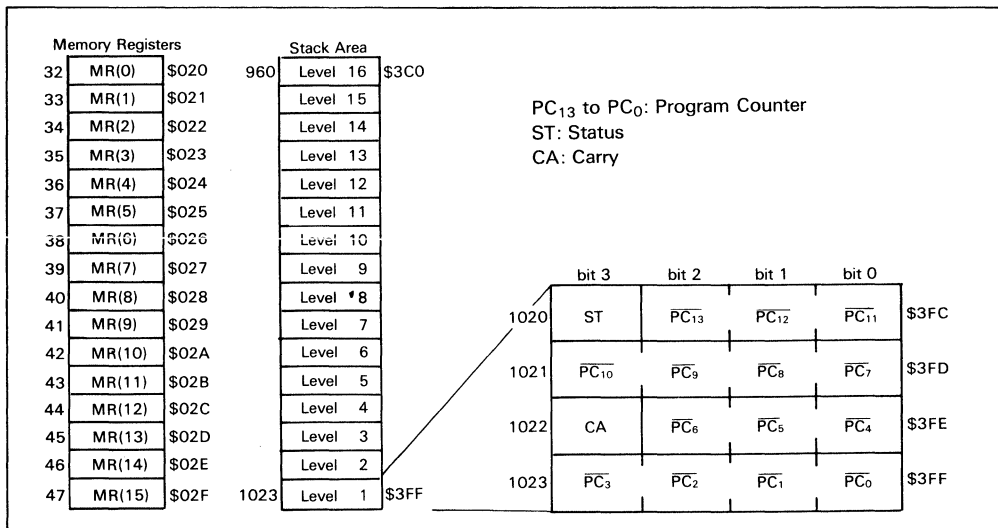

Figure 4. Configuration of Memory Register, Stack Area, and Stack Position
Data Area (\$020 to \$3BF): 16 digits, \$020 through \$02F, of the data area are called memory registers (MR) and are accessible by LAMR and XMRA instructions (figure 4).
broutine calls (CAL instruction, CALL instruction) and interrupts are serviced. This area can be used as a 16 nesting level stack in which one level requires 4 digits. Figure 4 shows the save condition. The program counter is restored by RTN and RTNI instructions. Status and carry are restored only by the RTNI instruction. This area, when not used for a stack, is available as a data area.